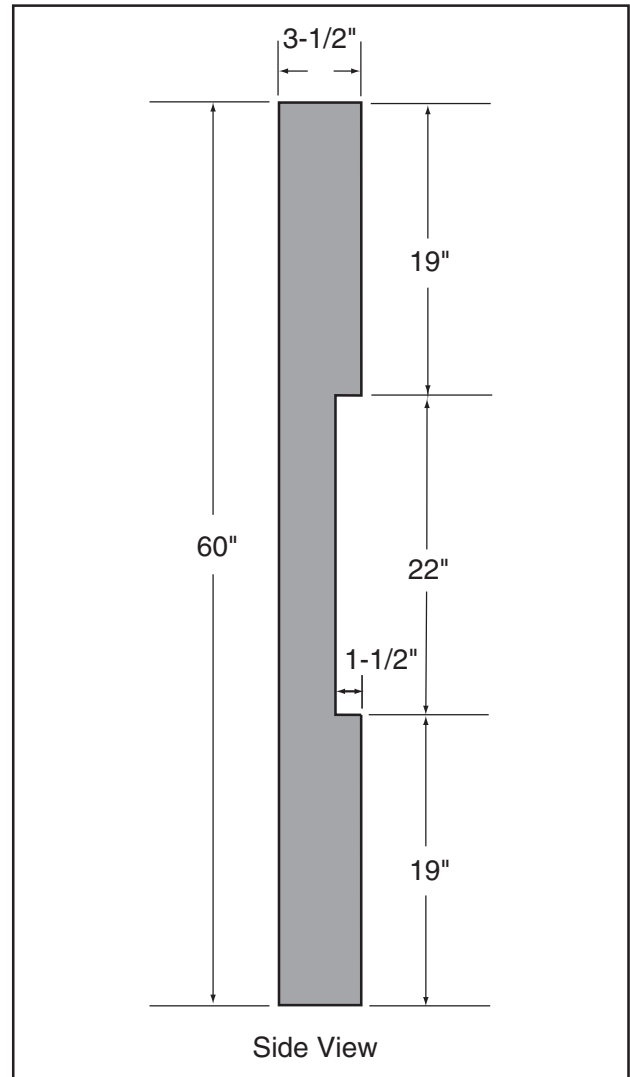

Figure 95. Dimensions of coplanarity gauge.
1. Make the "Coplanarity Gauge" shown in **Figure 95**.